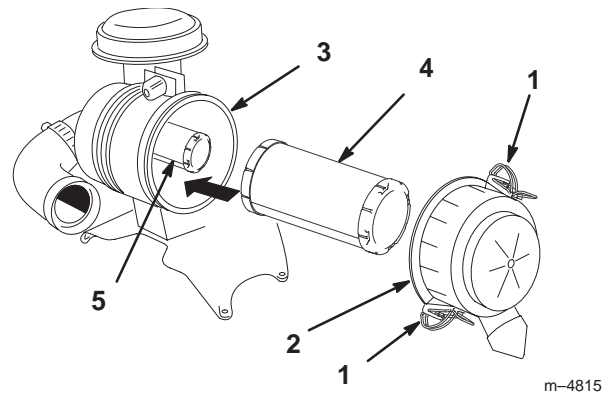

Figure 30
2. Release the latches on the air cleaner and pull the air cleaner cover off of the air cleaner body (Fig. 30).
4. Gently slide the primary filter out of the air cleaner body (Fig. 30). Avoid knocking the filter into the side of the body. Do not remove the safety filter, unless you intend to replace it as well.
2. If the safety filter is being replaced, carefully slide it into the filter body (Fig. 30).
3. Carefully slide the primary filter over the safety filter (Fig. 30). Ensure that it is fully seated by pushing on the outer rim of the filter while installing it.
4. Install the air cleaner cover with the side indicated as UP facing up and secure the latches (Fig. 30).